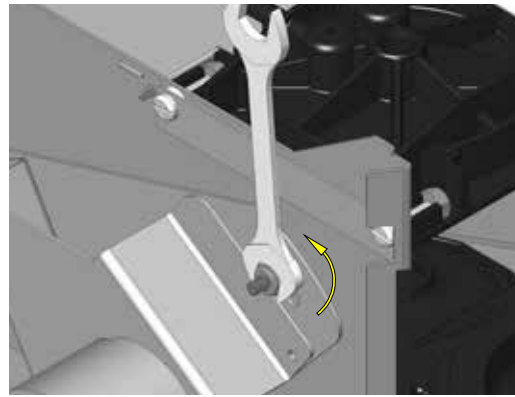

**FIG 21-1 Loosen top Allen screw.**
4. Loosen top Allen screw (farthest from motor). FIG 21-1.